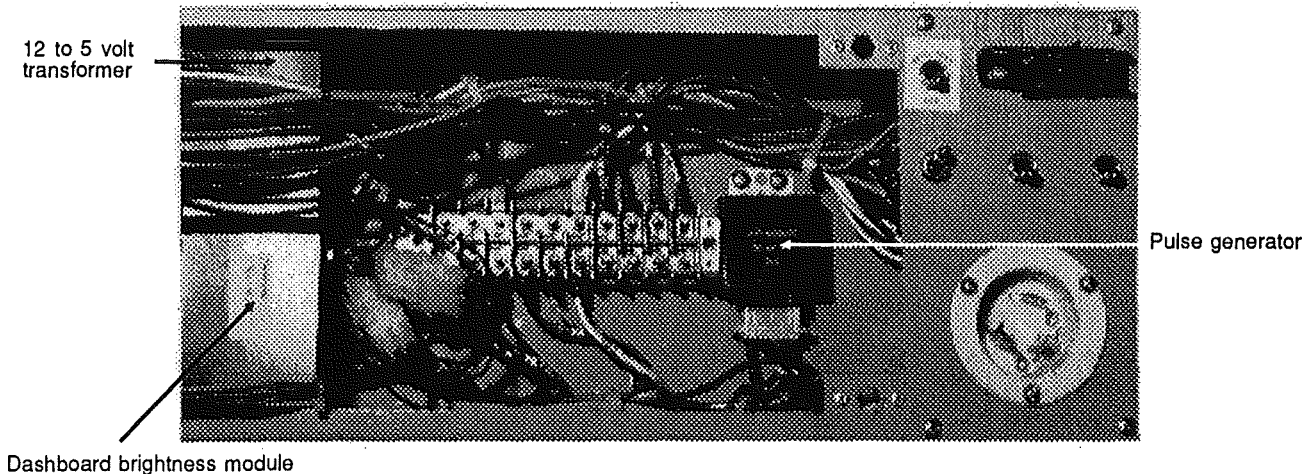

FIG. 4 - Alarm junction box (open)
Unscrew the 1/4 turn screws (2) and open the hinged panel to gain access to the following components located inside the alarm junction box (see fig. 4).